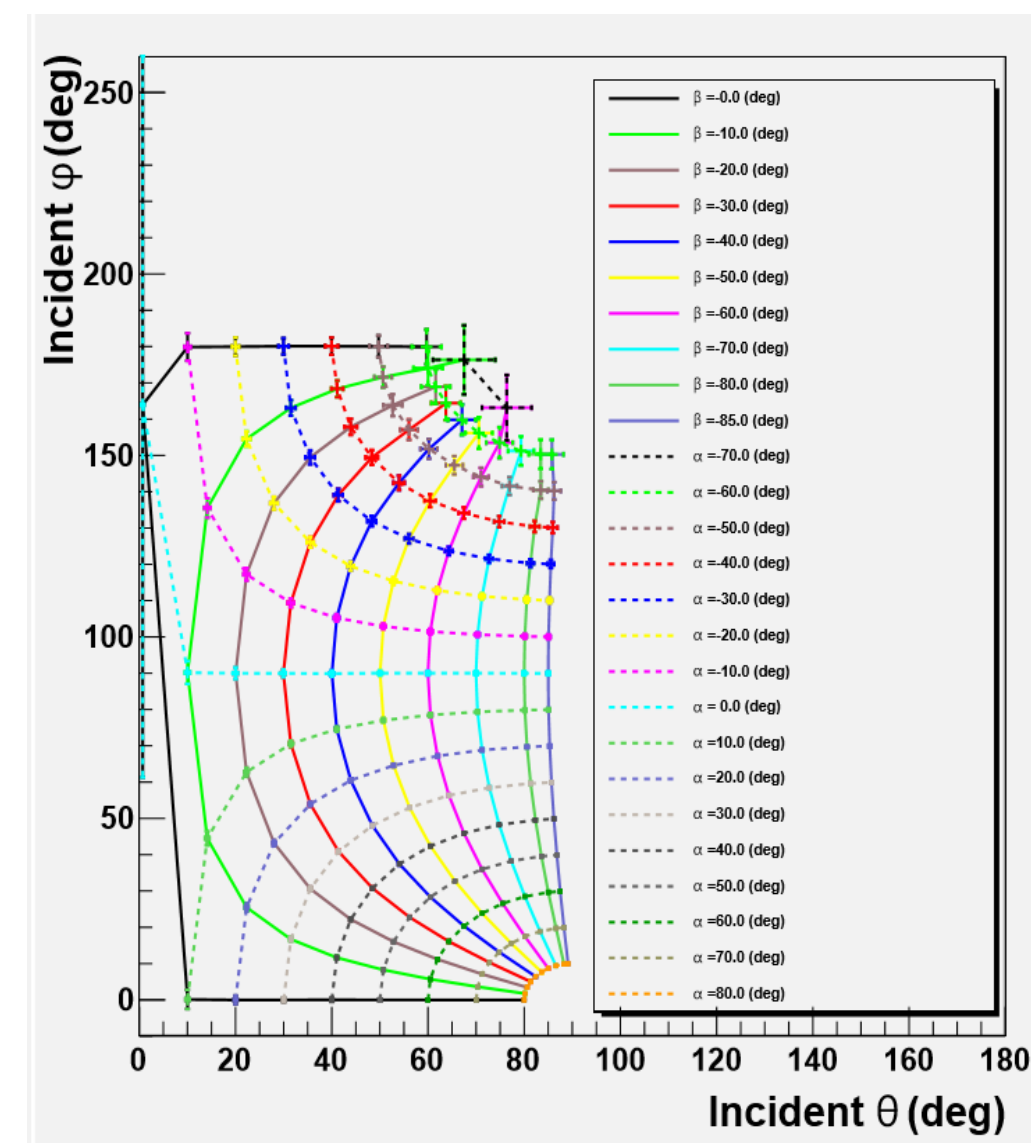

Fig.5 The relationship between  $\alpha, \beta$ , and  $\theta, \varphi$
- The relationship between  $\alpha, \beta, \theta, \varphi$  is shown in the fig.5. We can change the value of  $\theta$  and  $\varphi$  by changing value of  $\alpha, \beta$ . Calculate angle  $\varphi$  by Main Component Analysis.